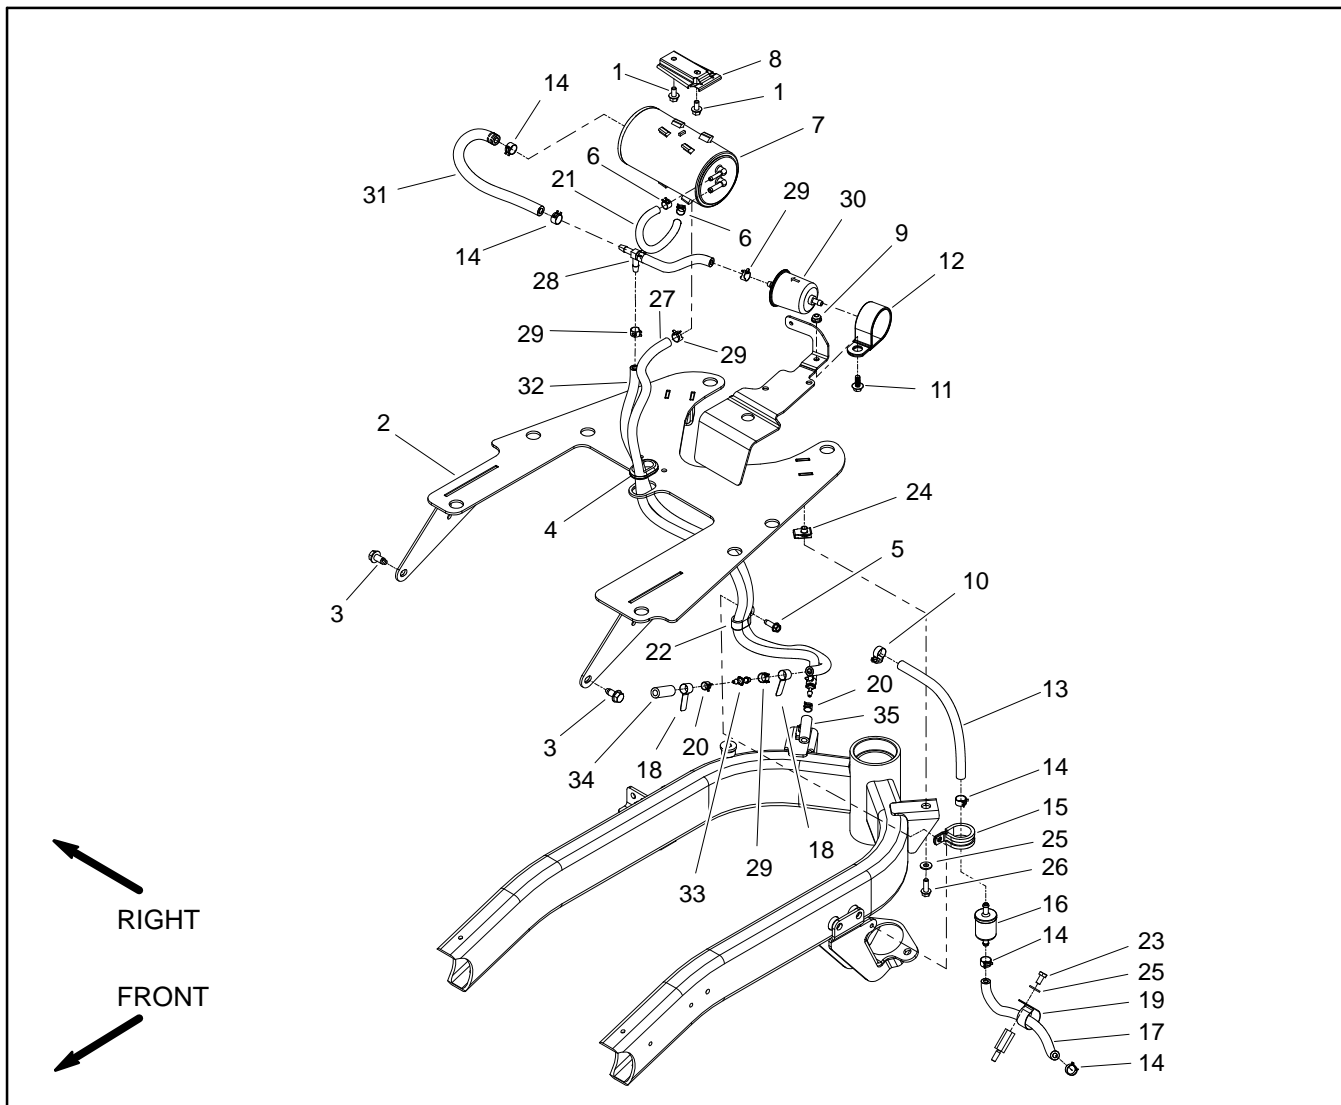

Figure 5
## Removal (Fig. 5)
1. Park machine on a level surface, disengage and lower cutting units, move functional control lever to neutral (N), engage parking brake, stop the engine and remove the key from the ignition switch. Wait for all machine movement to stop.
4. Remove components as needed using Figure 5 as a guide.
A. If either purge hose assembly (item 27) or tee hose assembly (item 28) is to be removed, label ends of hose for assembly purposes. Both of these assemblies include a check valve so direction of installation is important for correct operation of the evaporative control system. The check valve is not available as a separate part so hose assembly replacement is necessary if the check valve or hose is faulty. To ensure proper operation of check valves, do not attempt to remove them from the hose assembly.
## Installation (Fig. 5)
1. Install all removed components using Figure 5 as a guide.
A. If either purge hose assembly (item 27) or tee hose assembly (item 28) was removed, make sure that installation is correct.